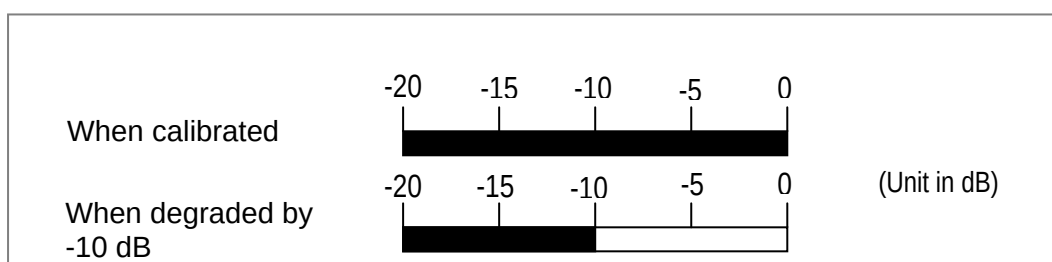

Figure 6.2 Examples of the Performance Monitor Bar Graph
- (3) After 30 seconds or more since the target has been acquired, plot the target again as a second plot by placing the cross cursor on it and pressing the ACQ key. A vector will be developed and the relevant data will be shown on the right side of the screen. (Refer to Figure 6.2)
- (4) Press the DELETE key to cancel the target tracking. The symbol of the target and data will be cleared.